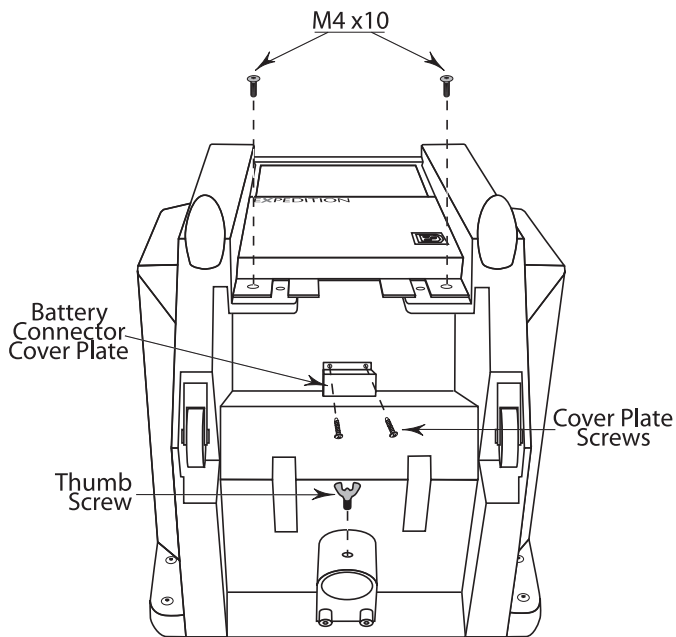

figure 1
- 1 With the rear of the Expedition cabinet facing you, lie the cabinet face down on a soft surface so as not to scratch the front grille. (figure 1)